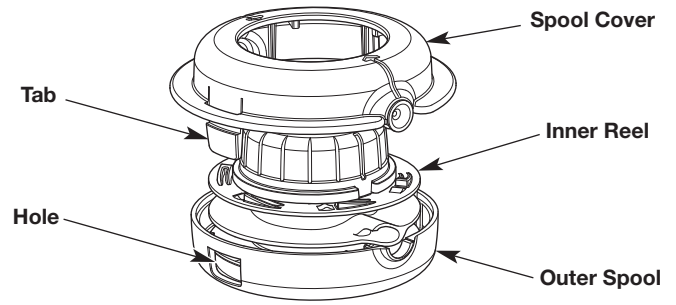

Fig. 18
1. Firmly press in the tabs on the cutting head (Fig. 18).
2. Remove the spool cover (Fig. 18).
4. Use a clean cloth to clean the inner reel, outer spool and spool cover (Fig. 18).
5. Align the tabs on the spool cover with the holes on the outer spool (Fig. 18). Push the spool cover onto the outer spool until the tabs securely snap into the holes.